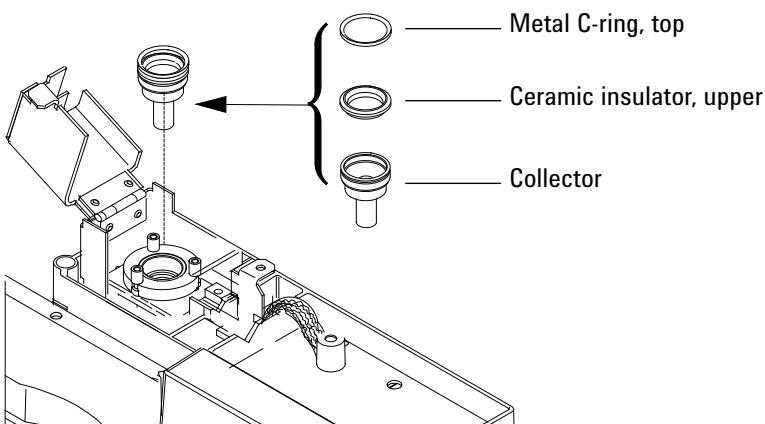

Figure 7 NPD collector, upper insulator, and metal C-ring
- 20 Install the bottom metal C-ring, the lower ceramic insulator, and the top metal C-ring. See Figure 7.